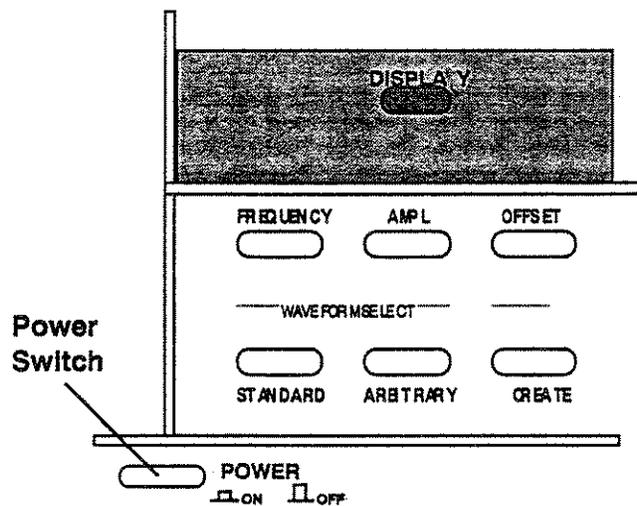

Figure 2-5. Power Switch
2. Press the "POWER" On/Off switch in to turn the unit on (figure 2-5).